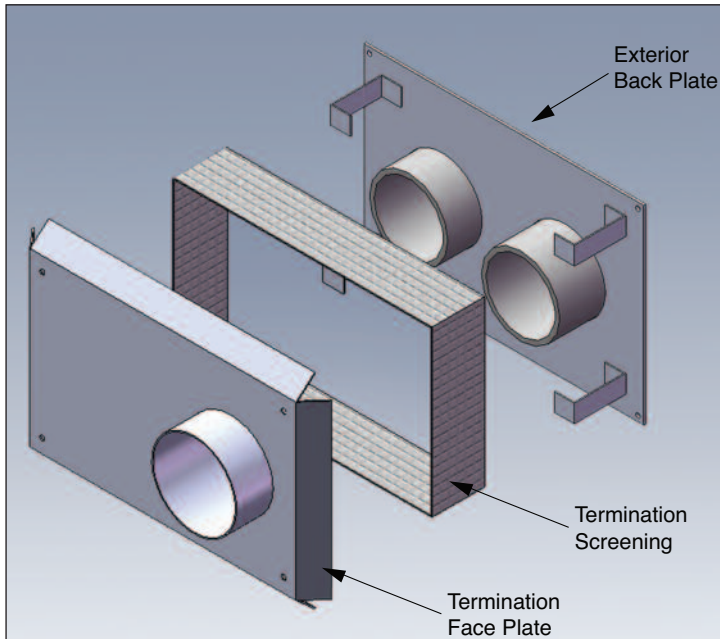
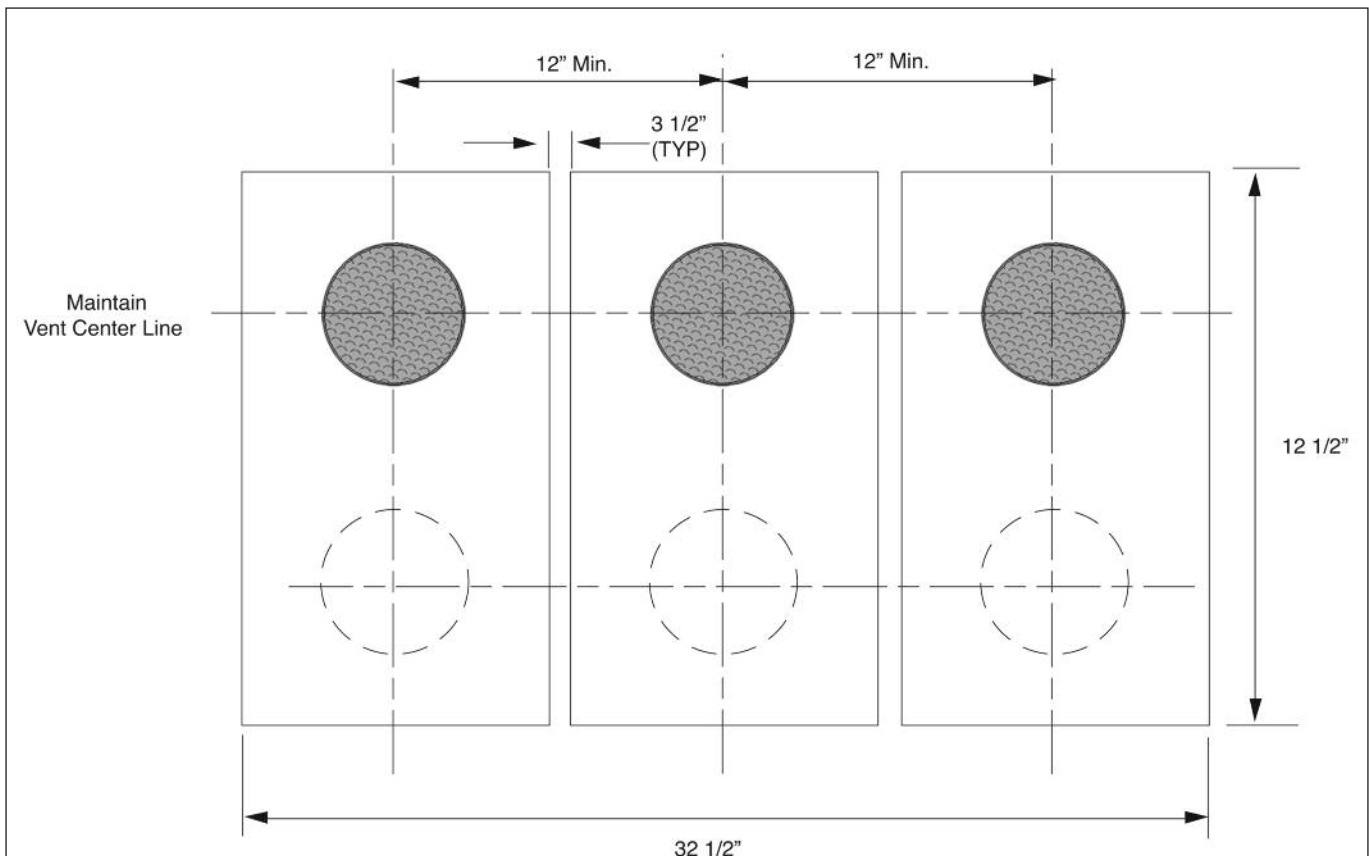

**Fig. 2: Mounting of Interior Plate**
**Fig. 3: Mounting of Exterior Back Plate**
6. Install the air intake piping and the vent piping through the penetration holes. Ensure the air intake piping extends beyond the exterior face of the wall 1" and the vent piping extends 2" beyond the exterior face of the wall. Tighten the support bands on the interior plate to support the piping. See Figure 2 and Figure 3.
7. Mount the exterior back plate over the protruding vent and air intake piping. Use the supplied #10 x 1" mounting screws to secure the plate to the exterior face of the building as shown in Figure 3.
8. Apply a bead of high temp silicone (RTV) around the vent and air intake piping where it penetrates through the exterior back plate as shown in Figure 3.
9. Apply a generous bead of high temperature silicone (RTV) along the outside circumference of the vent pipe as shown in Figure 3.